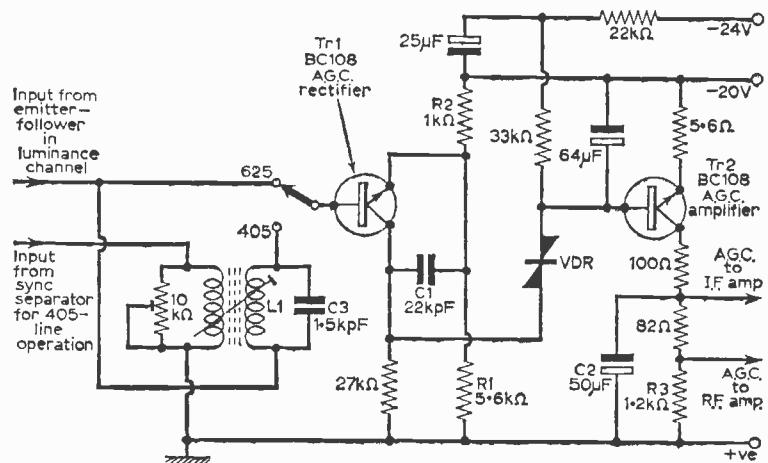

Fig. 1: A.G.C. circuit using a peak detector (Tr1) operating in the 625-line mode on the sync tips and an a.g.c. amplifier stage (Tr2).
One widely used type of circuit, employing a transistor (Tr1) as the peak detector, is shown in Fig. 1 (the particular circuit is as used in the Pye colour chassis). Here on 625 lines the input from an emitter-follower stage in the luminance channel is applied direct to the base of Tr1. The potential divider R1, R2
A stage of amplification is necessary between the a.g.c. rectifier and the controlled stage(s), and the circuit is arranged so that this transistor, the a.g.c. amplifier (Tr2 in Fig. 1), is bottomed, i.e. fully conducting, under weak-signal conditions. In this condition, to take the example of an n-p-n
a.g.c. amplifier controlling an n-p-n i.f. stage as is actually the case in Fig. 1, maximum voltage negative with respect to chassis is developed across the a.g.c. amplifier load resistor R3. On increase in signal strength the a.g.c. rectifier output reduces the conduction of the a.g.c. amplifier so that the voltage across the load resistor decreases, i.e. becomes less negative. This is equivalent to applying an increased positive bias to the base of the controlled stage, and since with an n-p-n transistor a positive-going drive is required at the base to increase the current flowing through the transistor the stage then passes a greater current. As a result its collector voltage falls giving forward a.g.c. action.
Reverting to Fig. 1, the input to the a.g.c. peak detector on 405 lines is taken via the ringing circuit L1, C3. This is coupled to a winding fed with pulses from the sync separator stage. These constant amplitude pulses are combined with the video signal to provide the gating action. The system is designed so that on the first positive overswing following the sync pulse the a.g.c. rectifier samples the signal. This point coincides with the back porch period of the television waveform, giving us a black-level reference.